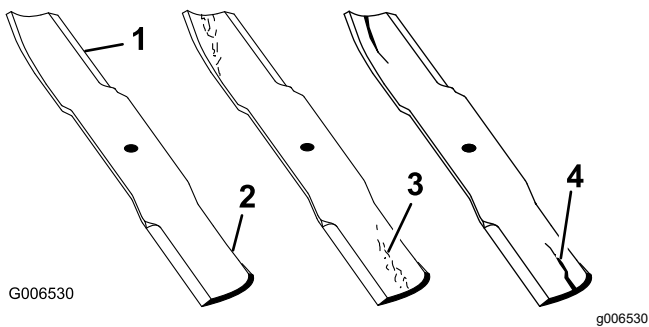

Figure 90
1. Inspect the cutting edges (Figure 90).
4. If you notice any cracks, wear, or a slot forming in this area, immediately install a new blade (Figure 90).